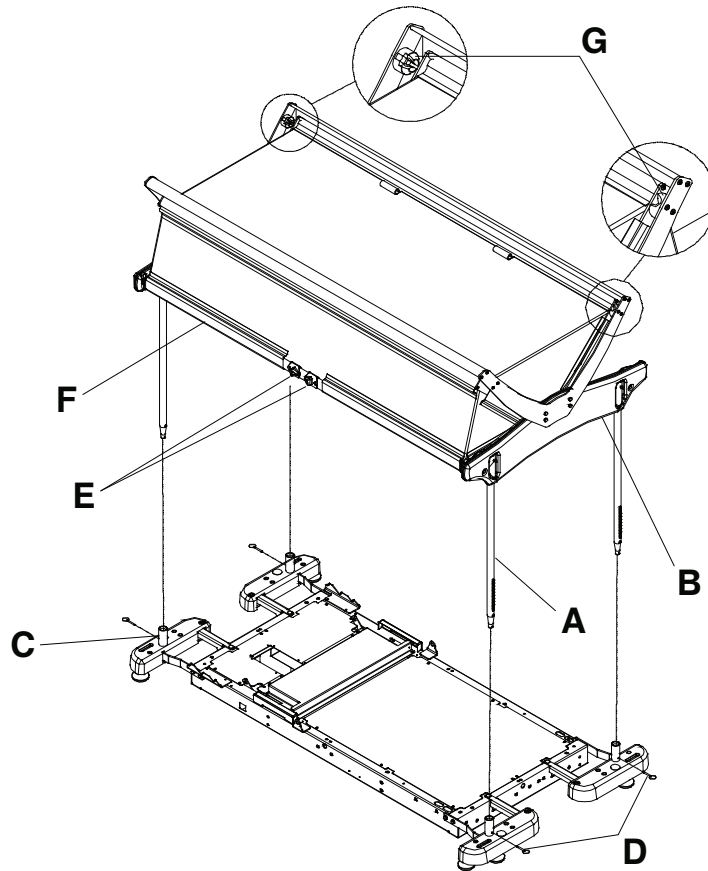

Figure 18 – Protective top with supports
1. Press the lock pin located on the top section of each post (A). Insert the post into the slot of the plastic structure (B) (Figure 18). Repeat for the other posts.
2. Install the four posts in the accessory bracket sockets (C) (Figure 18).
3. Using a 9/16" combination wrench, lock the posts in the accessory bracket sockets with the four hitch pins (D) (Figure 18).
1. To partially open the protective top, squeeze the two release knobs (E) and lift the lower rail (F) until the anchors points are passed (G) (Figure 18). Release the knobs and lower the rail until it rests on the anchor points.
2. To completely open the protective top, squeeze the two release knobs (E) and lift the lower rail (F) to the maximum height and release the knobs (Figure 18).
3. To close a partially open protective top, lift the lower rail (F) from the anchor points (G) and squeeze the two release knobs (E) while lowering the rail to the closed position (Figure 18). Release the knobs.
4. To close a completely open protective top, squeeze the two release knobs (E) and lower the lower rail (F) to the closed position (Figure 18). Release the knobs.